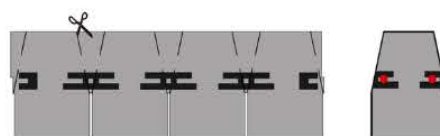

Fig. 7 Cutting of the ridges
- To obtain the ridges, cut the bituminous shingles into 3 pieces (Fig. 7). Bend the piece of shingle and position them over the ridge line (see Fig. 8). If necessary heat them on the reverse, sanded side.